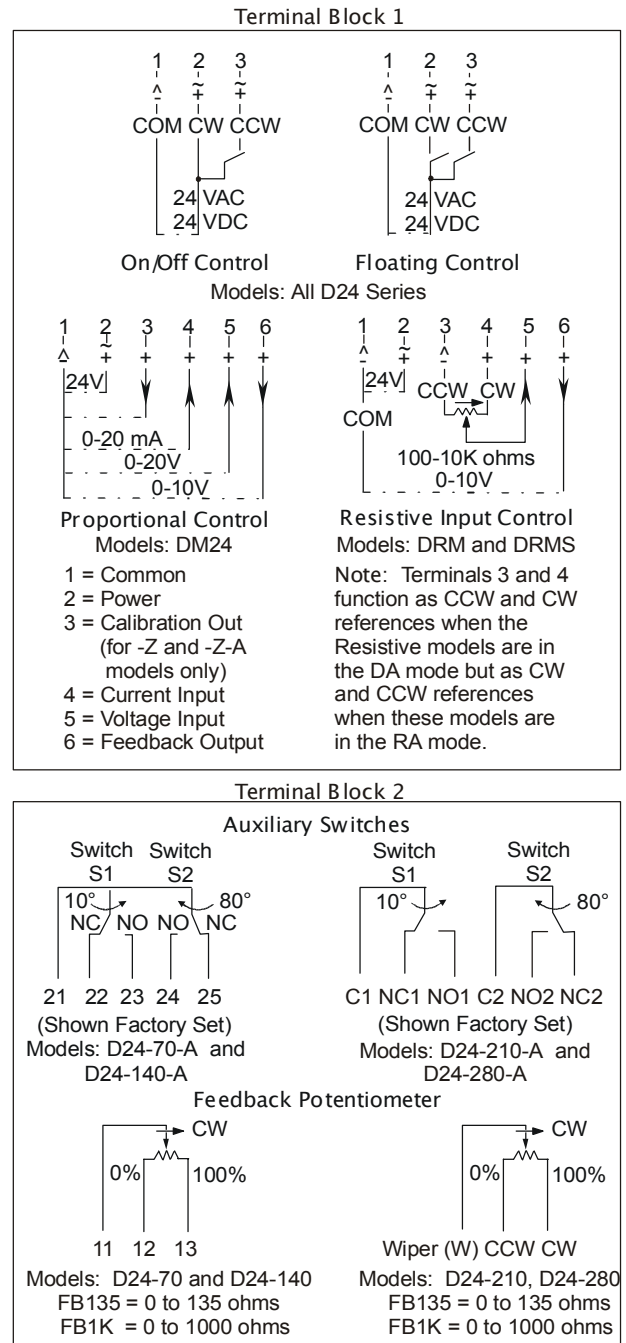

Figure 5: Wiring Diagrams for D- Series Models
Refer to Figure 5 for the applicable D- Series actuator.
4. Insert the cable wires through the plastic plug or conduit fitting, and connect to the terminal block using the applicable wiring diagrams in Figure 5.
To set one of these models for RA operation, reverse the control wiring connections at Terminal 2 and Terminal 3. (See Terminal Block 1 in Figure 5.)
Note: The normally closed contact closes, and the normally open contact opens. (See Auxiliary Switches in Terminal Block 2 of Figure 5.)